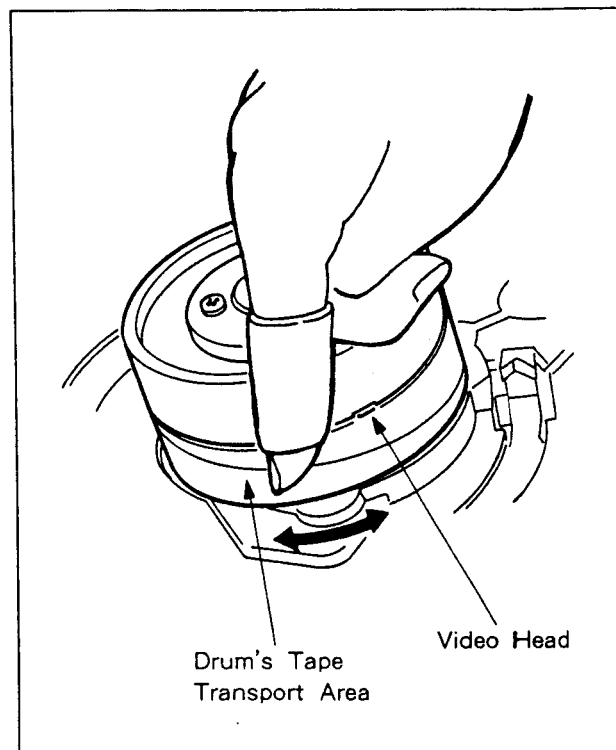

Fig. 3-1-1.
① Drum (COMPL CYLINDER) and Video Heads (See Fig. 3-1-1.)